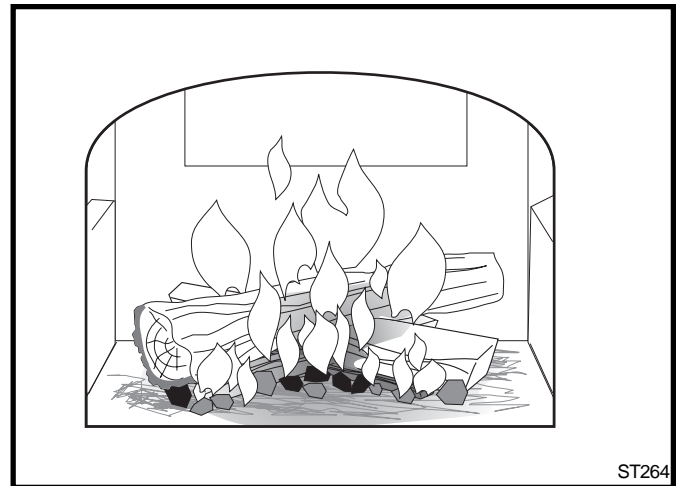

Fig. 28 Gradually add larger pieces of wood until all the wood is burning well.
Step 3. Light the newspaper and close the door. Gradually build up the fire by adding a few 3-5" (80-127mm) diameter splits. (Fig. 28) **If this is one of the first few "break-in" fires, let the fire burn brightly, and then let it die out.**